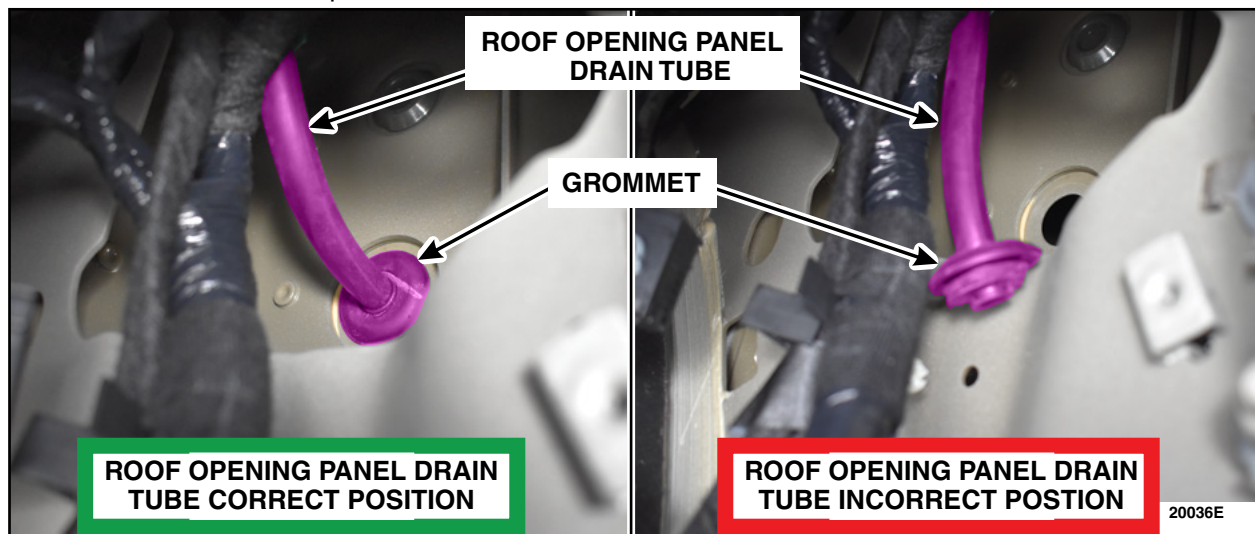

FIGURE 5
- Is the drain tube and grommet in the correct position? See Figure 5.